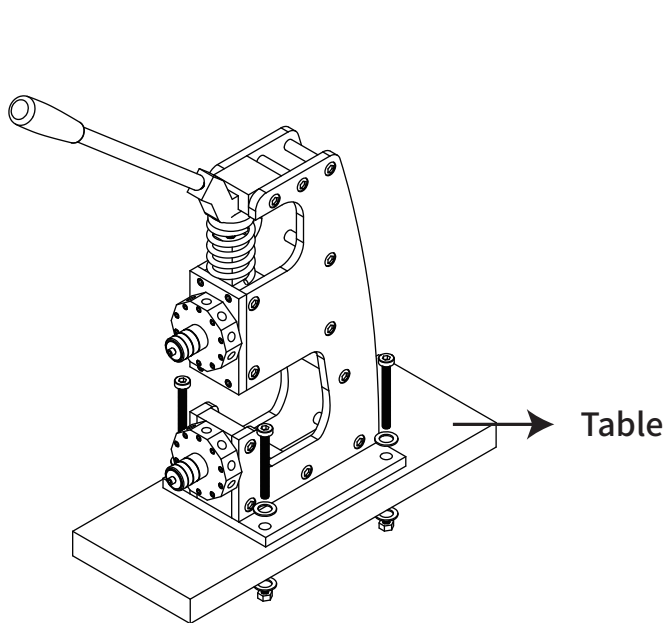

Fig.7.1
8. Drill mounting holes on the worktop to match the four hole positions of the base. After drilling, insert the base screws (M) into the 4 holes of the base and tighten them securely(Fig. 7.1 & 7.2).